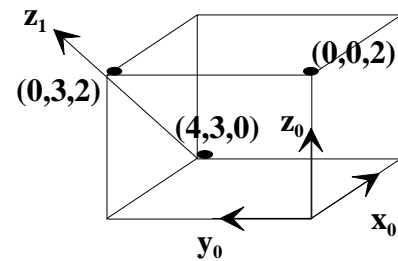

Figure 1
1. Figure 1 shows the location of adjacent joint axes z_0 and z_1 . The coordinates shown are all with respect to frame 0. Complete the frame assignment for Frame 1 according to the Denavit-Hartenberg (DH) convention discussed in class. Identify the four DH parameters (θ , r , d , α) that relate the two frames.